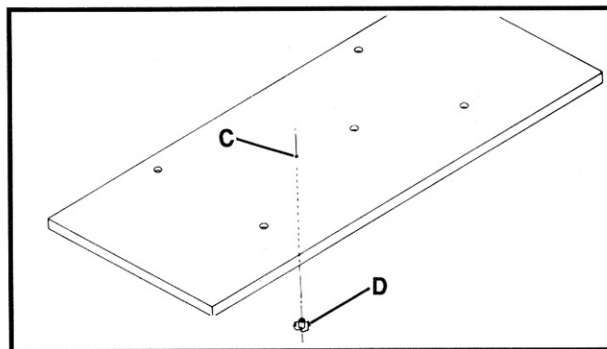

Fig. 26
2. The front table board is shown in Fig. 26. The top of the table board can be identified by the five counterbored holes. One additional hole (C) Fig. 26, is not counterbored, and the tee nut (D) should be inserted into hole (C) from the bottom of the table.